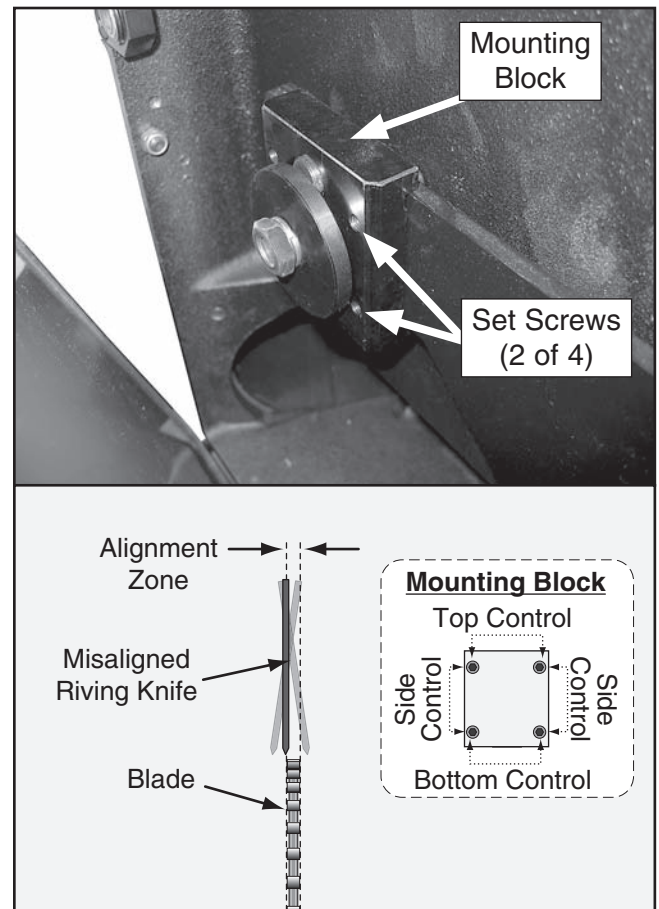

Figure 73. Riving knife mounting block set screws.
- Study the photo and illustration in **Figure 73**, then adjust the set screws in the riving knife mounting block so that, when re-installed, the riving knife will be parallel with the blade and in the *Alignment Zone*.